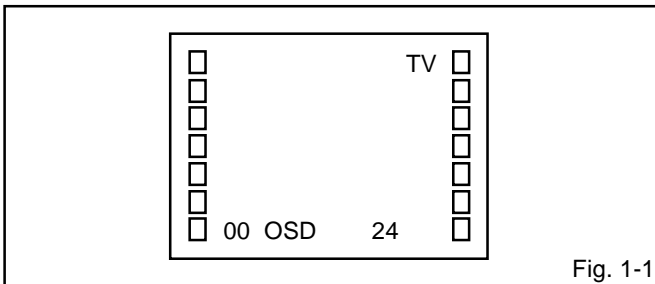

Fig. 1-1
1. In the condition of NO indication on the screen. Press the VOL. DOWN button on the set and the Channel button (9) on the remote control for more than 1 second to appear the adjustment mode on the screen as shown in Fig. 1-1.
2. Activate the adjustment mode display of Fig. 1-1 and press the channel button (01) on the remote control to select "CUT OFF".
4. Activate the adjustment mode display of Fig. 1-1 and press the channel button (10) on the remote control to select "R. DRIVE".
3. Activate the adjustment mode display of Fig. 1-1 and press the channel button (03) on the remote control to select "H.PHAS".
3. Activate the adjustment mode display of **Fig. 1-1** and press the channel button **(07)** on the remote control to select "V.SIZE".
3. Activate the adjustment mode display of **Fig. 1-1** and press the channel button **(08)** on the remote control to select "V.LIN".
3. Activate the adjustment mode display of **Fig. 1-1** and press the channel button **(16)** on the remote control to select "BRI CENT".
8. Activate the adjustment mode display of **Fig. 1-1** and press the channel button **(16)** on the remote control to select "BRI CENT".
4. Activate the adjustment mode display of **Fig. 1-1** and press the channel button **(24)** on the remote control to select "TINT".
13. Activate the adjustment mode display of **Fig. 1-1** and press the channel button **(24)** on the remote control to select "TINT".
1. Activate the adjustment mode display of **Fig. 1-1** and press the channel button **(18)** on the remote control to select "CONT.MAX".